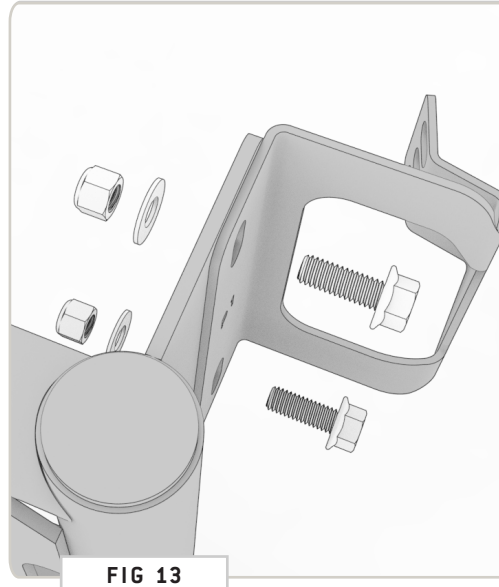
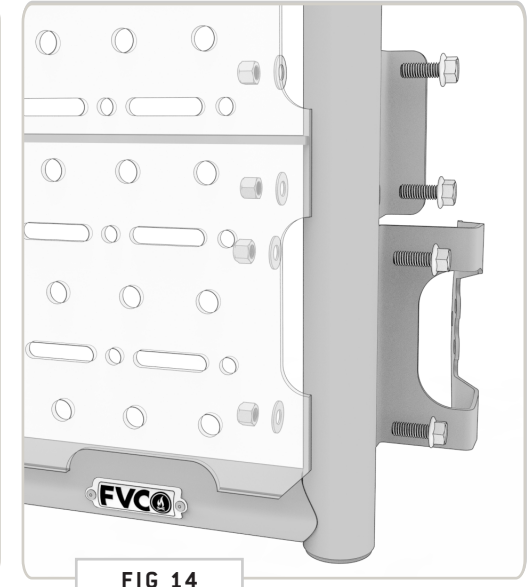

FIG 13
FIG 14
**4.1 Hinge Mounts:** With assistance, raise the Platform up to the door and insert (2ea) 3/8" Flanged Hex Head Screws through the Upper (FIG 13) and Lower (FIG 14) Hinge Brackets. Loosely thread on (2ea) 3/8" Flat Washers and Nylon Locknuts.
**NOTE -** Make sure that the "fins" of the Platform are on the inside of the Hinge Brackets as shown in FIG 13 and 14.
**4.3 Lower Frame Brace:** Use a 9/16" Wrench and Socket to attach the lower frame brace tightly to the door using (2ea) 3/8" Flanged Hex Head Screws and (2ea) 3/8" Flat Washers and Nylon Locknuts (FIG 14).